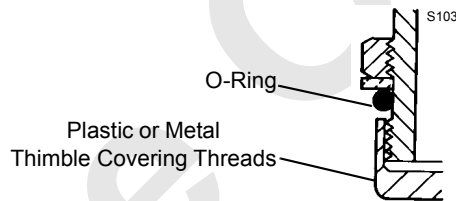

FIGURE 2-10
- Be careful not to cut O-rings when assembling them to fittings. Use thimble as shown in Figure 2-10 when assembling O-ring over threads.